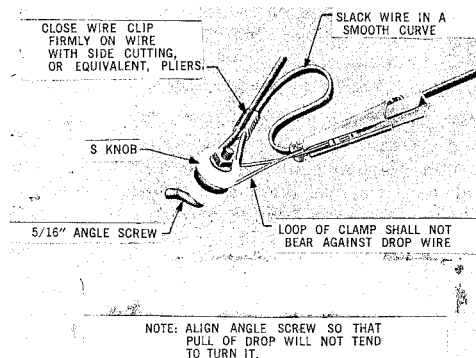

Fig. 1 — First Attachment, Angle Screw (Drop Wire Run in Horizontal Direction on Building)
3. TYPICAL FIRST ATTACHMENTS TO BUILDINGS AND STEEL STRUCTURES (Fig. 1 through 9)